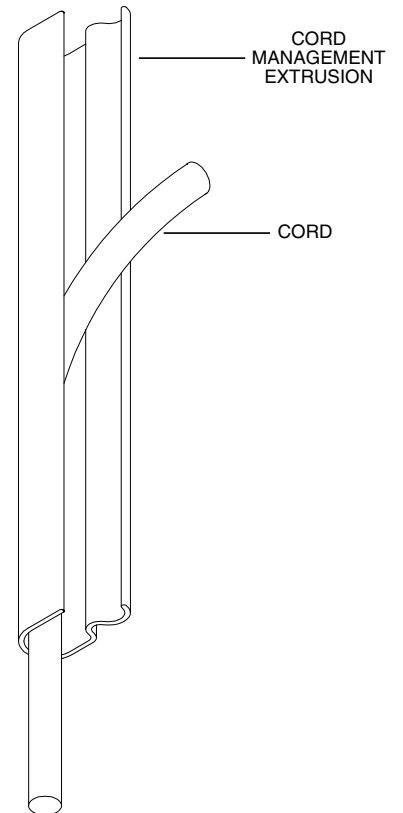

FIG. 1
**PANEL CORD MANAGEMENT** A panel cord management extrusion will accommodate either (1) task light cord and (1) flat telephone cable or (1) CRT coaxial and (1) flat telephone cable.
3. Press the cord(s) (see above introduction) into the large side of the panel cord management extrusion. Start at one end and slide your finger the full length. (Figure 1).